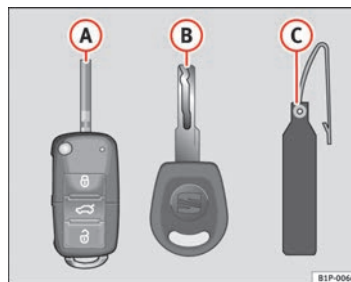

Fig. 63 Set of keys
- one remote control key ⇒ Fig. 63 (A) with folding key bit,
- one key without remote control (B),
- a plastic key tab* (C).